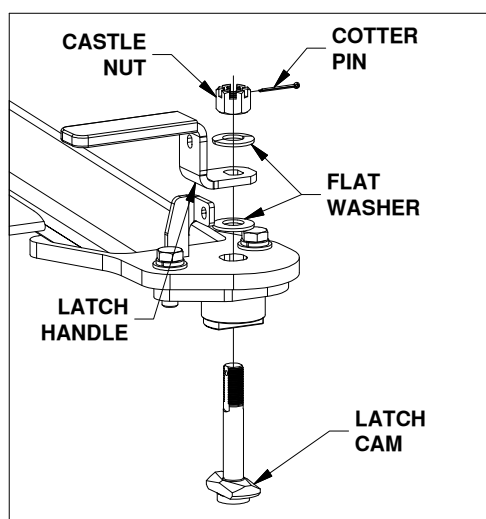

Figure C5: List of latch parts.
- Adjust the tension in the latch handle**, for parts list and visual guide refer to Figures C5 and C6.